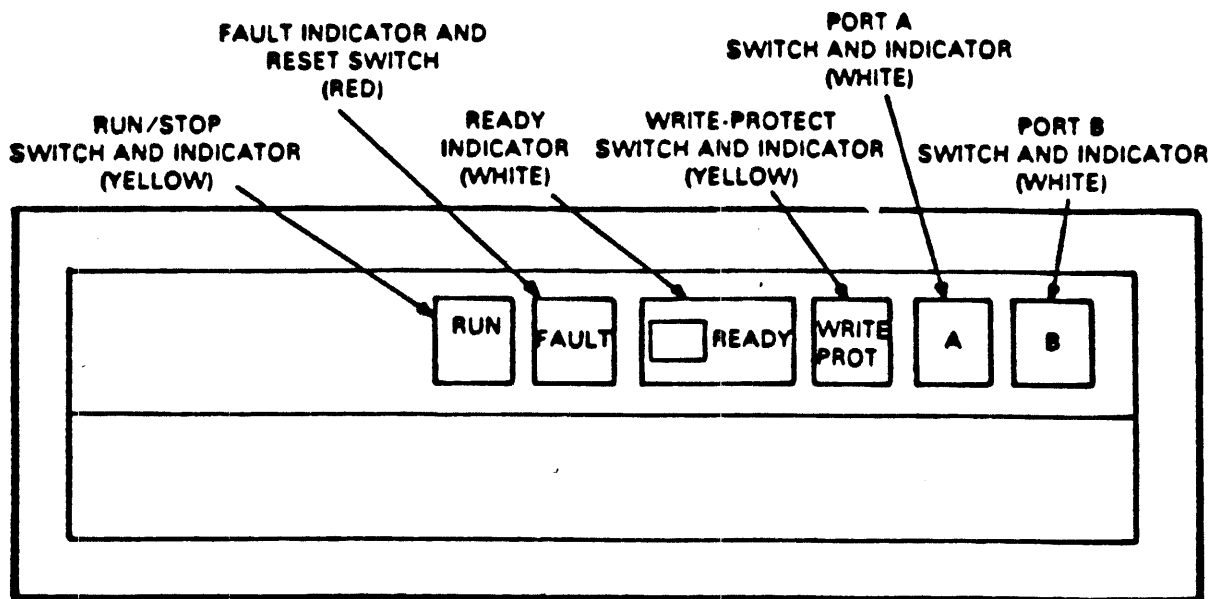

Figure 1 Front-Panel Controls and Indicators
31. Spin up the drive by pressing the RUN/STOP switch (FIGURE 1).
32. After the drive has spun up and a ready light is "ON", press the "A" and/or "B" port switches on the Operator Control Panel to the "IN" position (FIGURE 1).
33. Run at least one (1) pass of RA81 drive diagnostics.